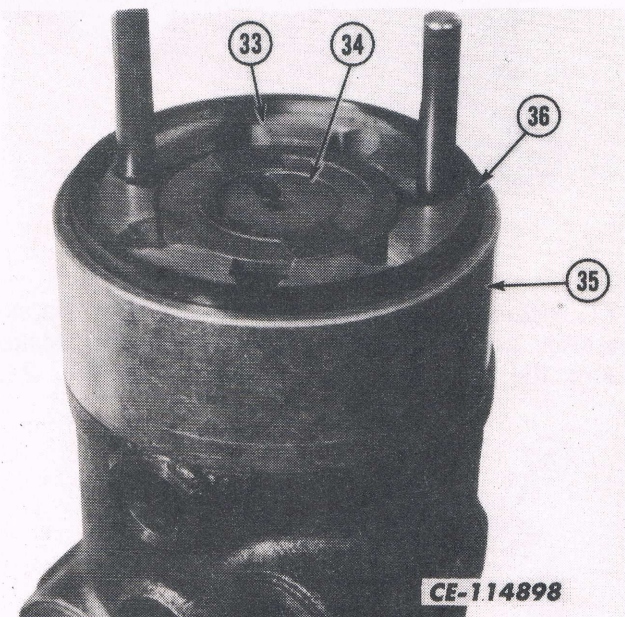

Fig. 25
22. Install the rotor seal (36) and seal retainer (35) over the rotor set (31) and down against the housing. See Fig. 25.
23. With the counterbore side of the commutator (34) up, assemble it into the commutator ring (33) with the slotted hole in the commutator engaging the nose of the drive link (30). Align the commutator outside diameter concentric with the inside diameter of the commutator ring. See Fig. 25.